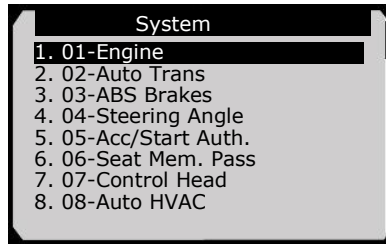

Figure 6.5
8. With the scan tool in **System** screen, use **UP/DOWN** scroll button to select the detecting system (Figure 6.5), and press **OK** button. Wait for the **Function** screen to appear.